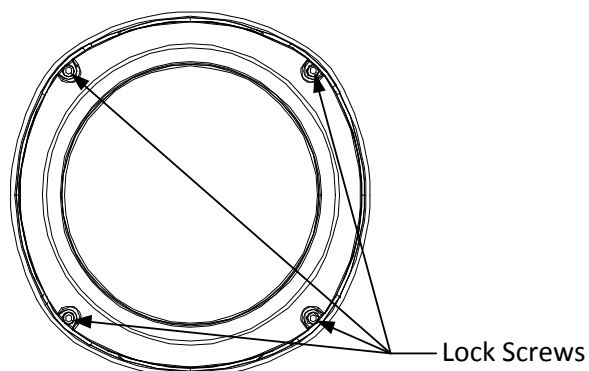

Figure 1-11 Loosen the Lock Screws
1. Loosen the 4 lock screws on the flange of the speed dome; refer to the Figure 1-11.